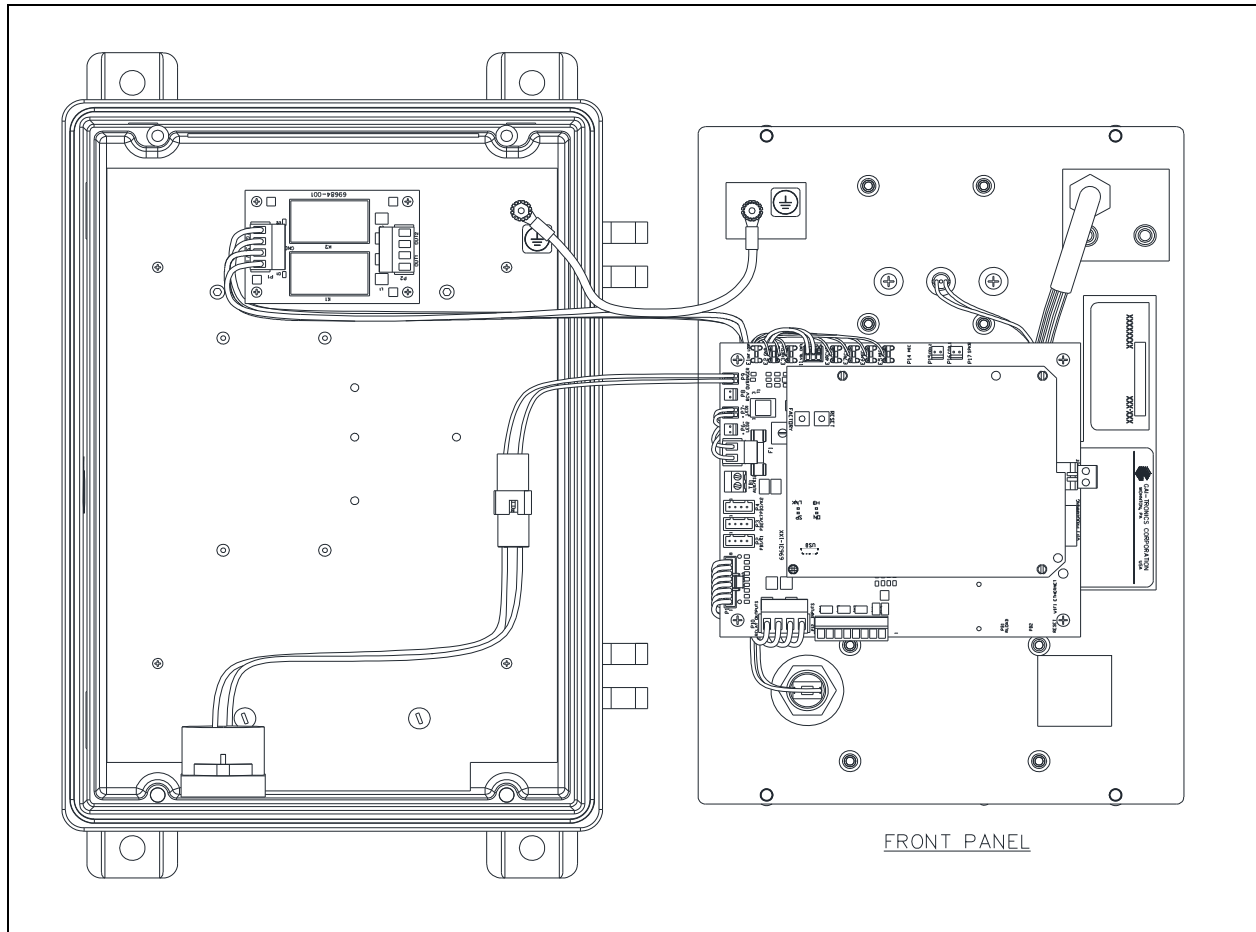

Figure 5. Installation and Maintenance Configuration
1. Remove the four screws from the front panel and turn it to the right so that the interior surface faces out (see Figure 5).
1. Secure the ground conductor to the ground terminal, located in the upper right corner in the rear of the enclosure (see Figure 5).